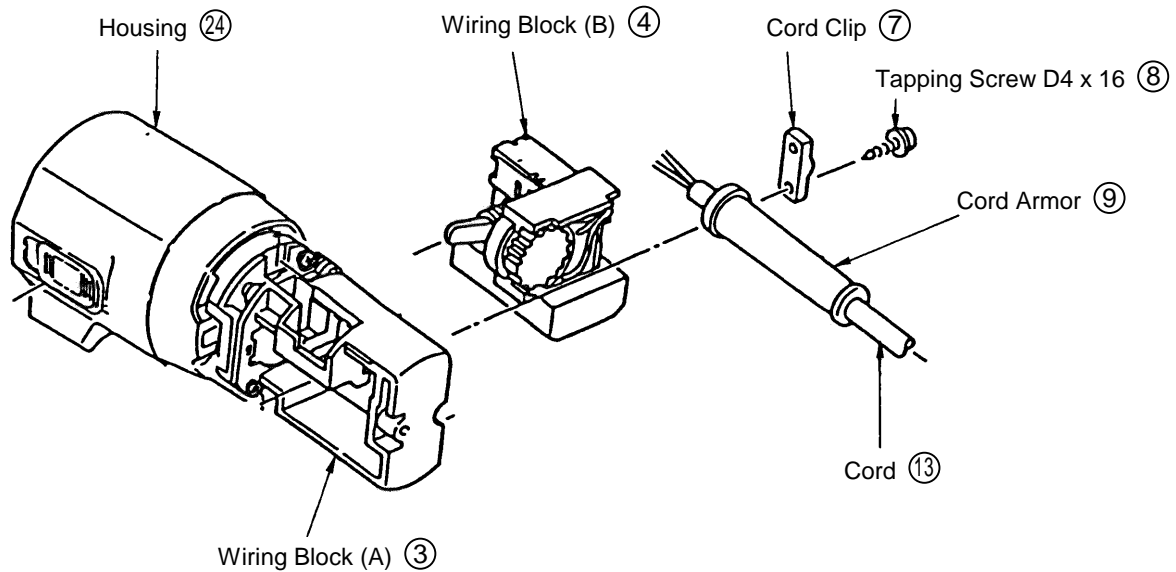

Fig. 15
- (11) Removal of Wiring Block (B) (4):
Remove the two D4 x 16 Tapping Screws (8), and take off the Cord Clip (7), Cord (13), and Cord Armor (9). Then hold Wiring Block (A) (3), and push Wiring Block (B) (4) by hand from the switch lever side toward the switch terminal side to remove it. (See Fig. 15)